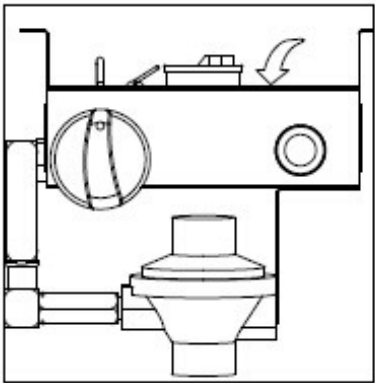

Figure 1
3. Push the control knob in and rotate to pilot position (Figure 1)